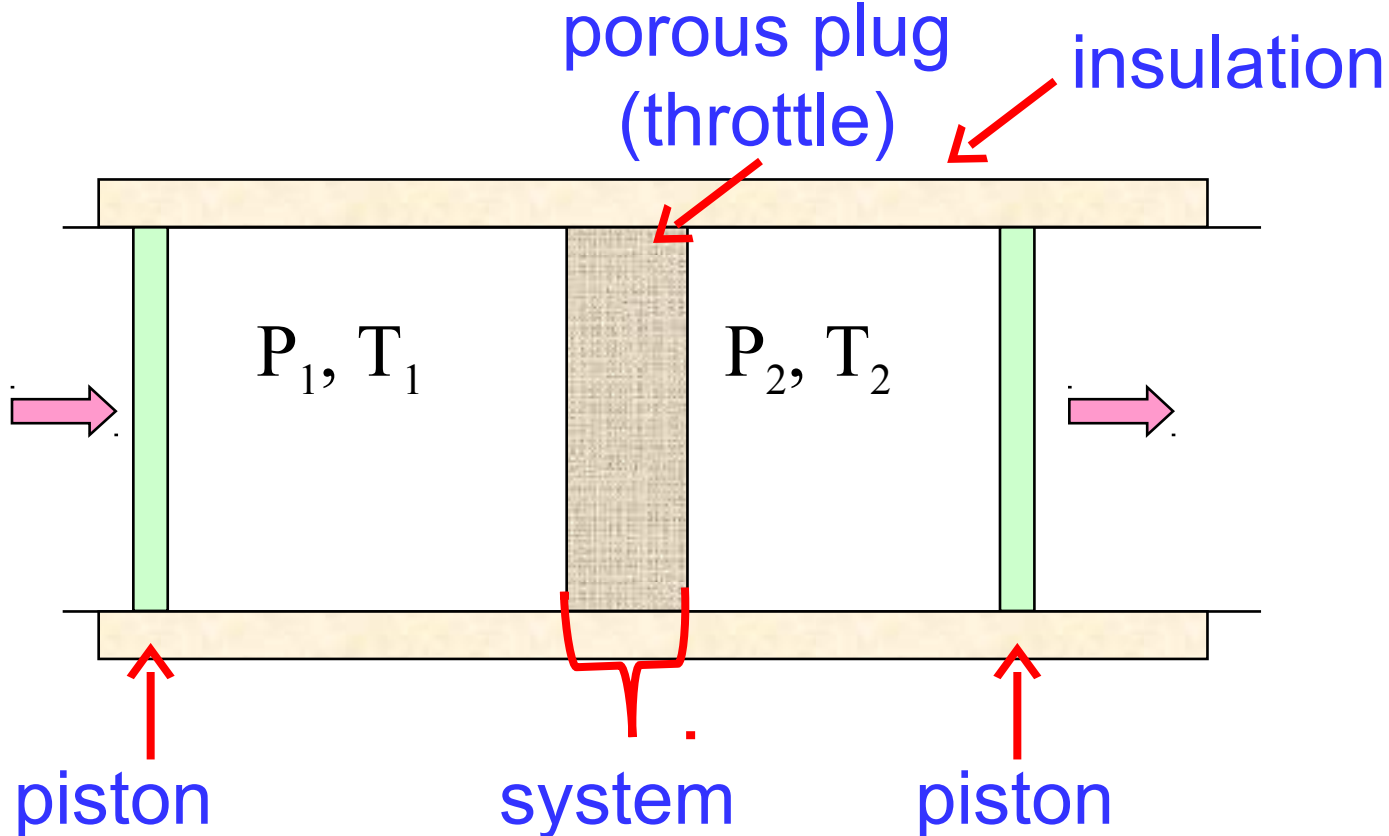

Fig. 2.23
*B) We apply the first law for the **whole system** including the cylinders, the gas and the pistons. This is regarded as a closed system (follow Fig. 2.23).*